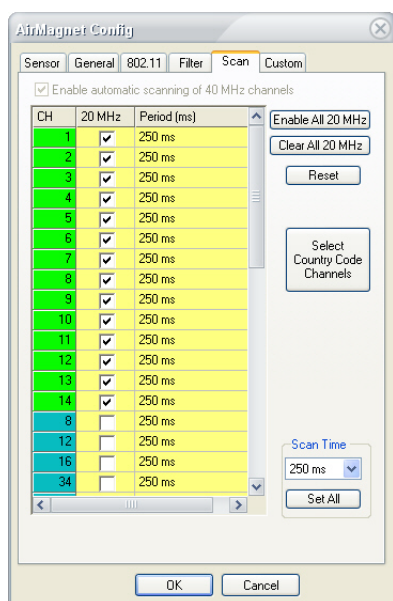

Figure 16-5:Configuring Sensor scan settings
- 1) From the AirMagnet Config screen, select the Scan tab. The screen refreshes. See Figure 16-5.